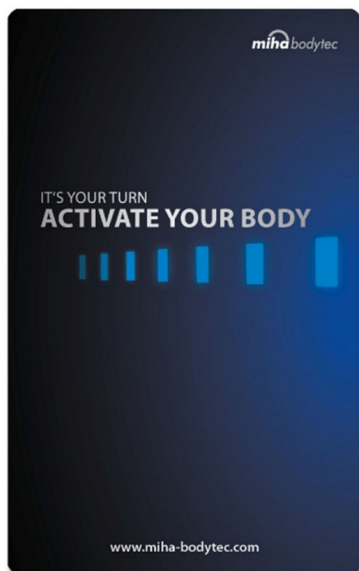

Fig. 59: Transponder card
1. ➞ Place the new transponder card (Fig. 59) in the main menu on the designated contact surface.